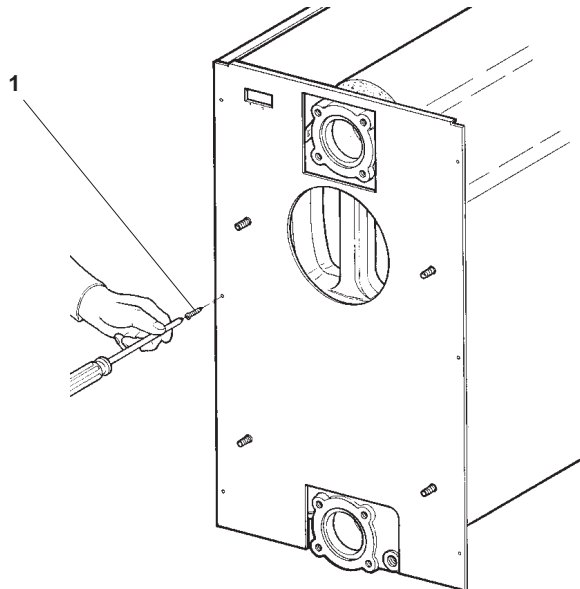

Fig. 29
5.06 (Fig. 29) Fix the right-hand side to the rear panel using screws 1.
5.08 Now fix the left-hand side to the rear panel using screws 1 in the same way as right side assembly (fig. 29).